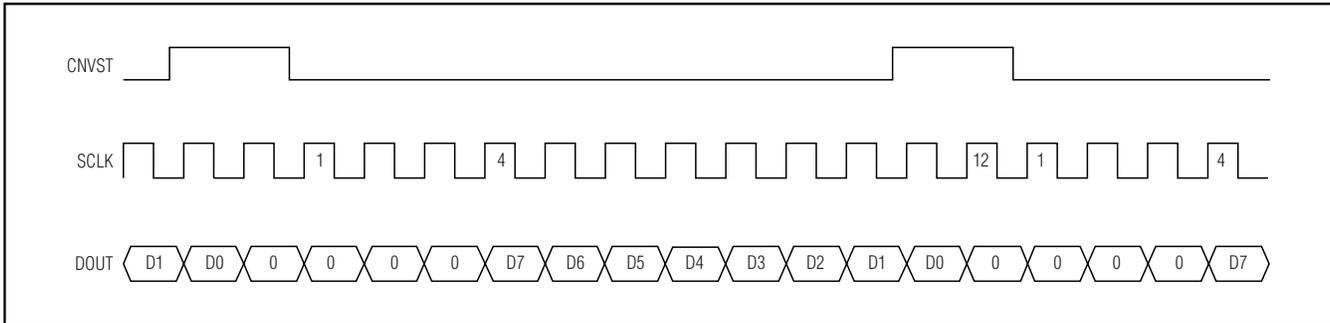

Figure 17. DSP Interface—Continuous Conversion
The MAX1336/MAX1337 can also be connected to the TMS320C54_ by using the data-transmit (DX) pin to drive CNVST and the transmit clock (CLKX) generated internally to drive SCLK. A pullup resistor is required on the CNVST signal to keep it high when DX goes high impedance and write (0001)h to the data-transmit register (DXR) continuously for continuous conversions. The power-down modes may be entered by writing (00FF)h to the DXR (see Figures 17 and 18).
modes of operation that can be programmed to interface with the MAX1336/MAX1337. For continuous conversions, idle CNVST low and pulse it high for one clock cycle during the LSB of the previous transmitted word. Configure the ADSP21_ _ _ STCTL and SRCTL registers for early framing (LAFR = 0) and for an active-high frame (LTFS = 0, LRFS = 0) signal. In this mode, the data-independent frame-sync bit (DITFS = 1) can be selected to eliminate the need for writing to the transmit data register more than once. For single conversions, idle CNVST high and pulse it low for the entire conversion. Configure the ADSP21_ _ _ STCTL and SRCTL registers for late framing (LAFR = 1) and for an active-low frame (LTFS = 1, LRFS = 1) signal. This is also the best way to enter the power-down modes by setting the word length to 8 bits (SLEN = 0111). Connect the DVDD pin to the ADSP21_ _ _ supply voltage (see Figures 17 and 18).